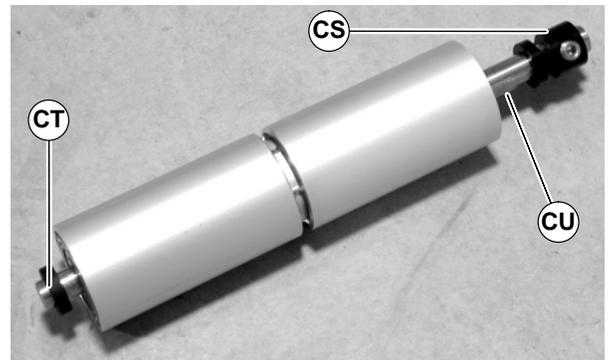

Figure 85
8. Remove the tension pulley locking collar (CS of Figure 85), spacer (CT) and pulley shaft (CU) from the roller pulley shaft assembly.